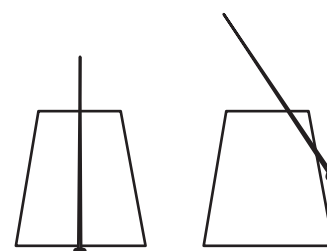

Figure 1.
1. Push the pin through the cork so that the pin head is flush with the cork. If the pin is large enough, try to go through the centre. If this is hard to do, try to insert the pin at an angle through the side and top of the cork (see Figure 1). *Note:* This setup will now be referred to as the “food holder.”